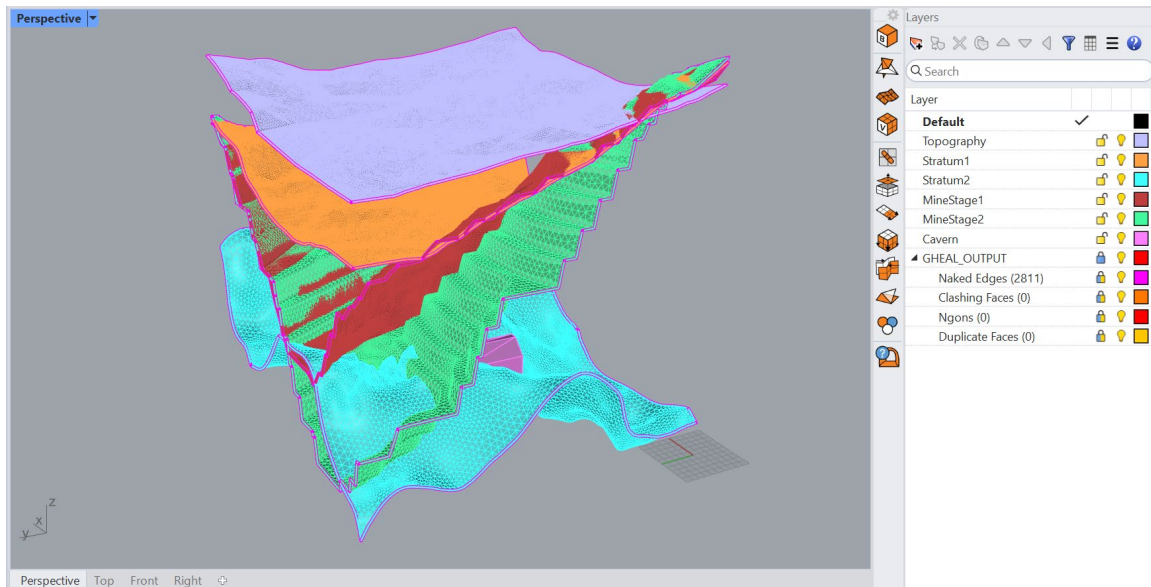

Figure 93: Cleaned-up and remeshed model meshes with GHeal output showing the presence of naked (real) boundaries only.
8. Basic clean-up is complete. Show all the layers and meshes and use **GHeal**→*ShowErrors* to confirm that there are no naked edges or any other issues within the meshes (the naked edges should only be present on the exterior/real mesh boundaries). The results should be similar to what is shown in Figure 93 (the number of naked edges may differ slightly from Figure 93). After this, delete “GHEAL_OUTPUT” with all its content and incrementally save the model.